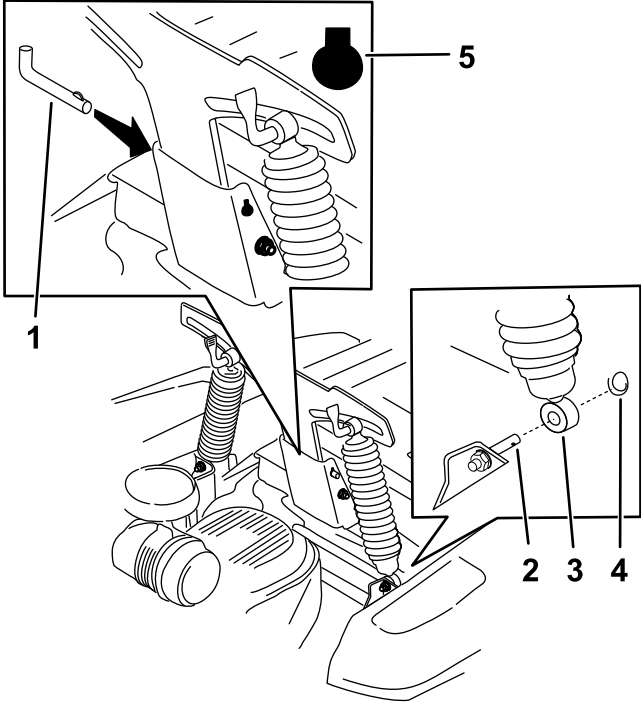

Figure 3
2. Place the ends of the springs on the posts (Figure 3).
3. Secure the springs to the posts with the 2 round clips (Figure 3).
4. Install the pin into the back by using the indexed key slot (Figure 3).